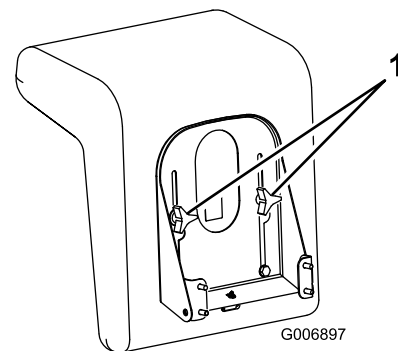

Figure 7
1. Raise the seat and loosen the adjustment knobs (Figure 7).